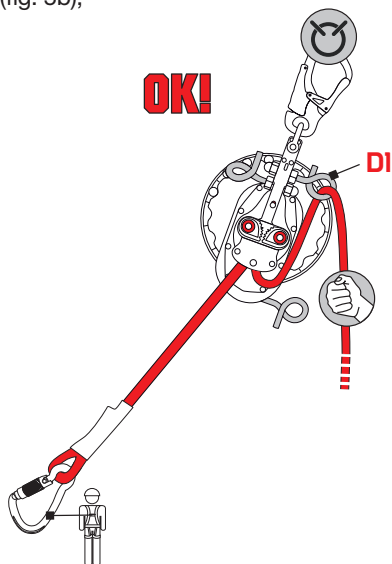
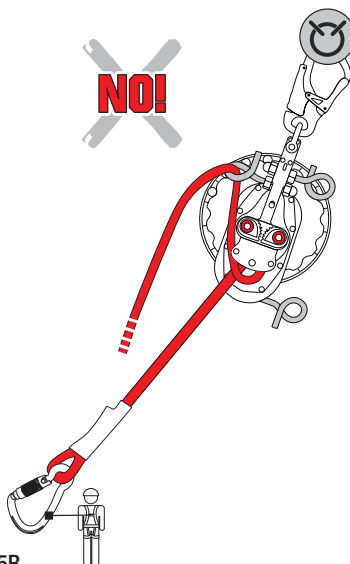

Fig.5A
Fig.5B
- let the short end of the rope in the pigtail bolt (D1) and hold it (fig. 5a), avoiding to cross the ends (fig. 5b),